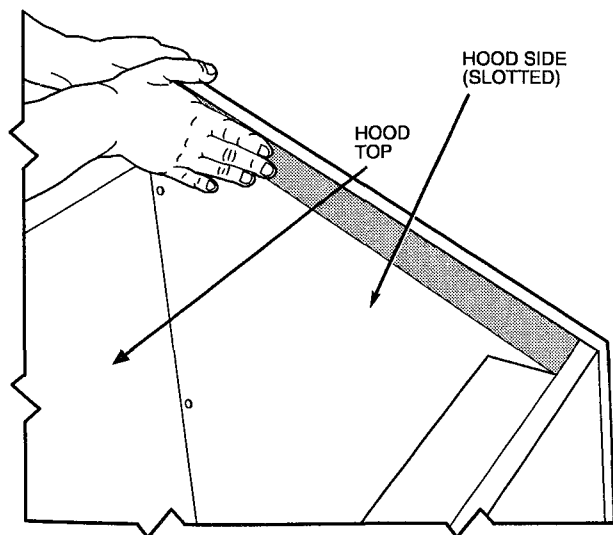

Fig. 25 — Adding Foam Strip to Hood Side
7. Place gray foam strip (provided) on inside of slotted hood side between filter and cross member opposite the mounting end. See Fig. 25.